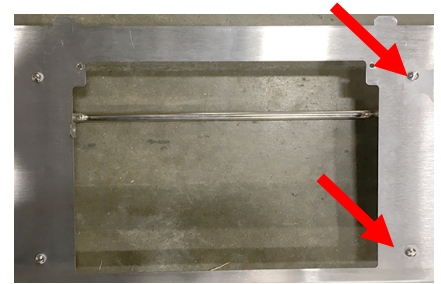

Figure 32
42. Lay the bezel upside down with the screws facing up (see Figure 32).
43. Remove the screws on the left side of the bezel (see Figure 32).